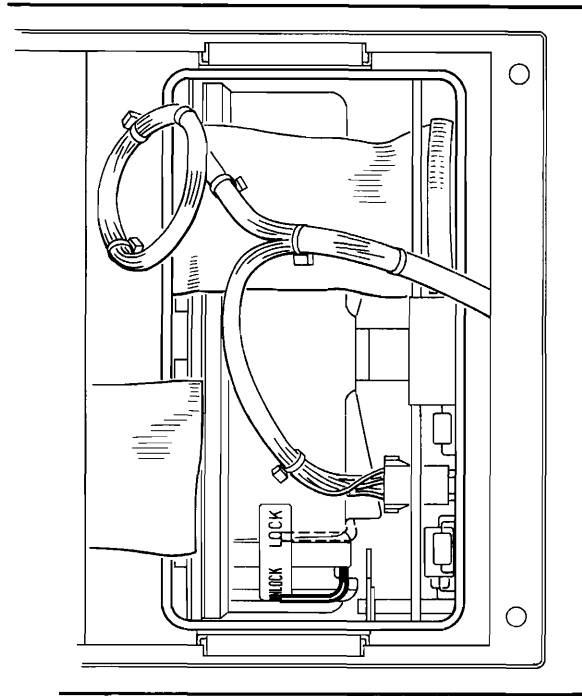

Figure 4-2. Drive Locking Lever
4. Move the locking lever to the right, then up and to the left, to lock the head into position. (See figure 4.2).
2. Remove the front panel to the Winchester unit and inspect to see that the head/spindle lock lever is in the LOCK position (refer to figure 4-2).